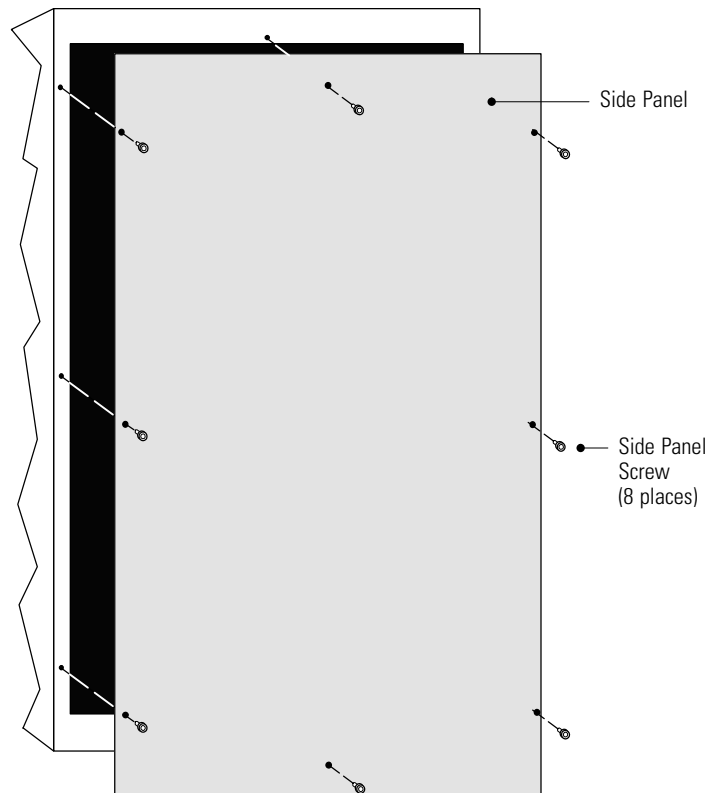

Figure 3. Removing the Solid Side Panel
1. Remove the top screw, bottom screw, and the three screws along each side of the side panel (see Figure 3).